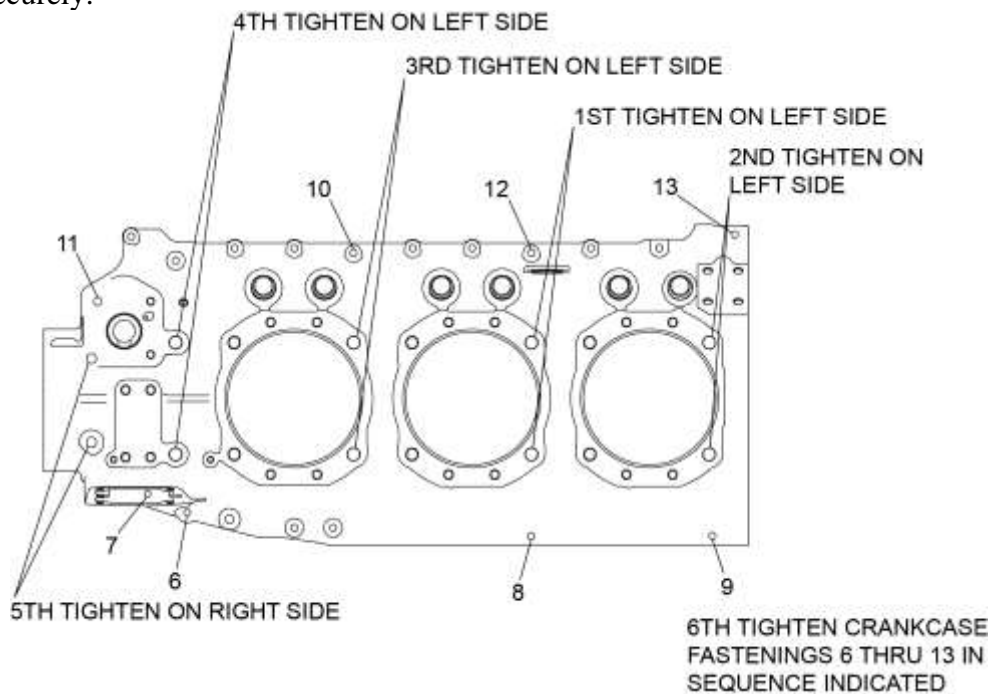

Figure 97
⚠ CAUTION TO ENSURE CORRECT ASSEMBLY OF THE CRANKCASE HALVES, TO MINIMIZE THE POSSIBILITY OF THE SUBSEQUENT LOOSENING OF CYLINDER BASE NUTS, AND TO ENSURE A UNIFORM LOAD ON THE MAIN BEARINGS IN THE CRANKCASE, FOLLOW THE STEPS IN THE TORQUE SEQUENCE IN THE ORDER GIVEN IN FIGURE 97.
(14) Install a nut (and spacer as required) on each thru-stud at the mating flanges on the crankcase halves in the sequence shown in Figure 97 to attach the crankcase halves securely.
NOTICE: To ensure uniform loading on the main bearings, immediately torque the nuts on the thru-studs in sequence (Figure 97), beginning at the center of the crankcase and then progressing alternately to the rear and front of the engine.
(15) Tighten the nuts on thru-studs at the:
- (16) Torque the nuts in sequence at positions 1st, 2nd, 3rd, and 4th to 25 ft.-lb. (34 Nm).
- (17) Re-torque the nuts in sequence at positions 1st, 2nd, 3rd, and 4th per the torque values in Table 5.
- (18) Torque the front bolts at position 5 on the right side to 25 ft.-lb. (34 Nm).
- (19) Torque the nuts at positions 6 thru 13 (in the order shown in Figure 97) as indicated in Table 5.
- (20) Torque the remaining crankcase fasteners per Table 5.
- (21) Make sure all fasteners on the crankcase are torqued correctly and none are loose.
- (22) Install the 3/8 in. slotted nut and washer on the stud at the rear camshaft bearing (Figure 97). Torque the nut to 215 in.-lb. (24 Nm). Safety wire the nut as shown in Figure 98.